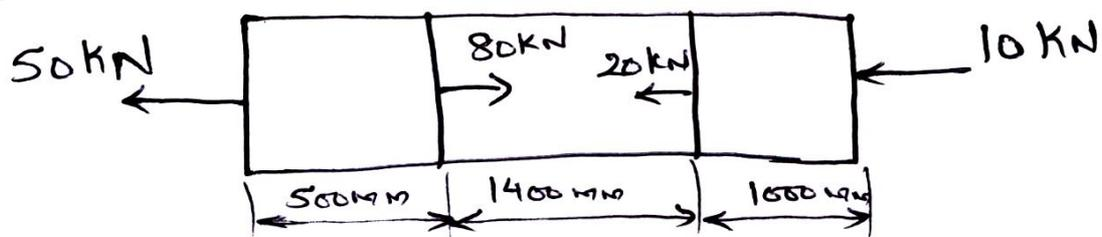

Fig.Q2(b)
b. A brass bar having cross-sectional area  $300\text{mm}^2$  is subjected to axial forces as shown in Fig.Q2(b). Find the total elongation of the bar.  $E = 84 \text{ GPa}$ .